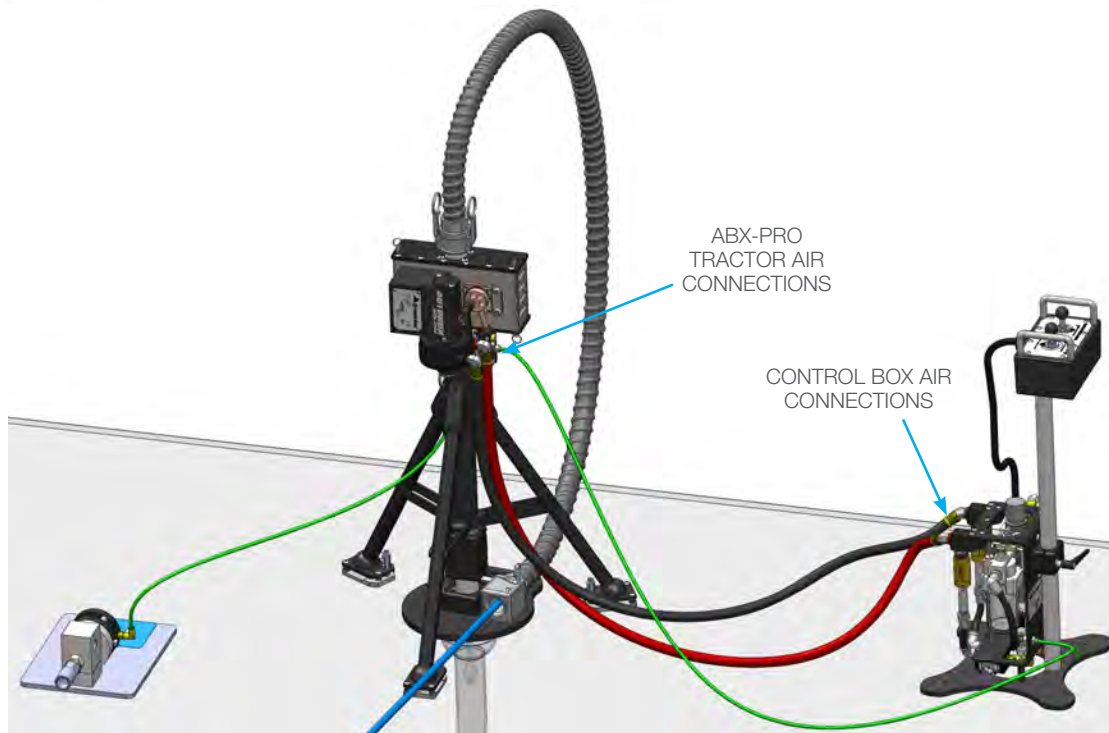

FIGURE 12
14. Connect 1/2" black and red air supply hoses from the fittings on the Control Box to the fittings on the ABX-PRO Tractor. Mate each hose to its respective color bands. **(Figure 12)**